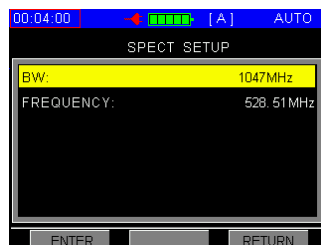

Figure 2-12-7
2. When you edit SPECT parameters, you are able to edit center frequency/span as in figure 2-12-7.